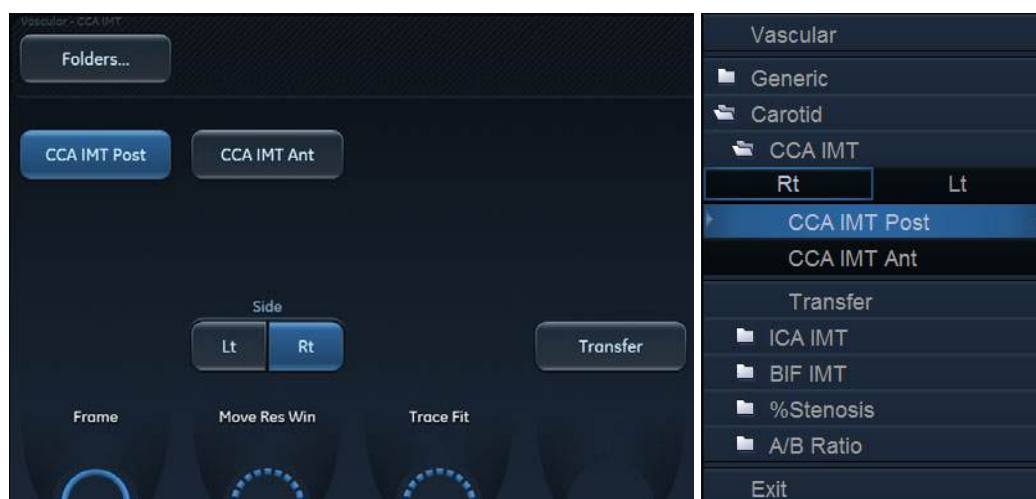

Figure 8-76. IMT Measurement menu (Right Common Carotid Posterior IMT measurement tool)
5. Select the appropriate IMT measurement. If measuring the IMT of the posterior wall of the right common carotid select **Rt** and **CCA IMT Post** (Figure 8-76).